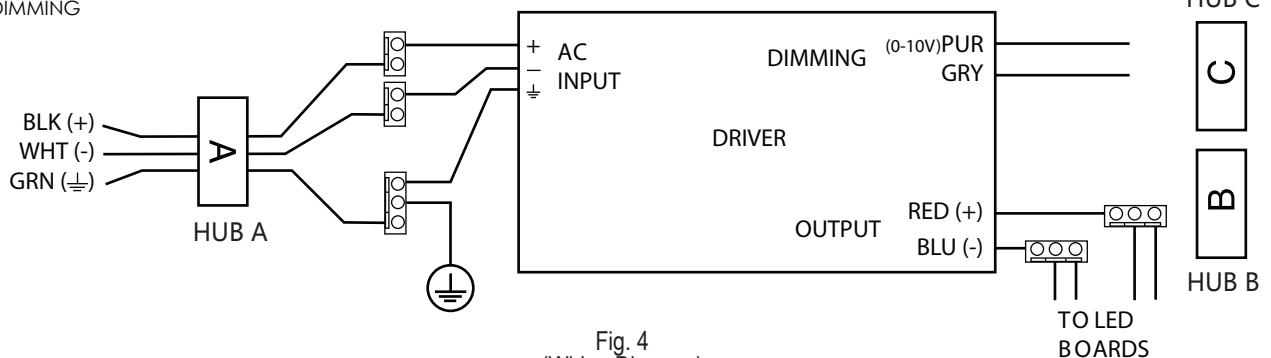

Fig. 4
4. Wire fixture in accordance with National Electrical Code standards or local requirements. See wiring diagram Fig. 4.